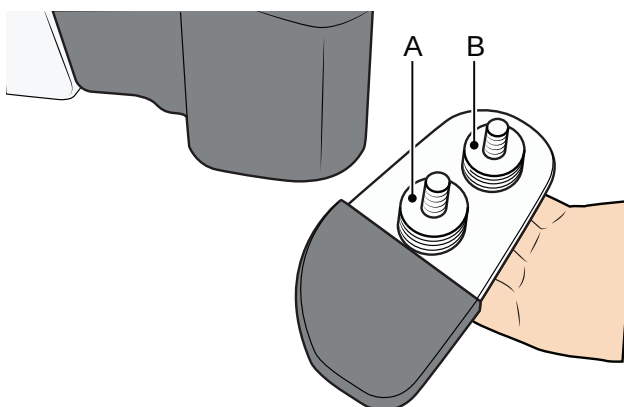

Figure 114
4. Add or remove washers to reach the desired height on the front bolt (A). Normally there are four fitting washers in the front (A) and four in the back (B). Each washer is 5 mm (0.2 in). See Figure 114.